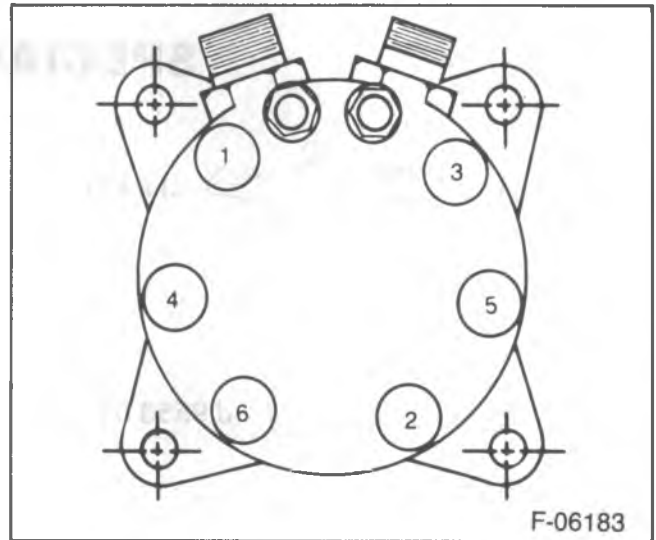

Figure 17—Torque Sequence
- Screws to 32 N·m (24 ft. lbs.) using the star configuration as shown in figure 17.